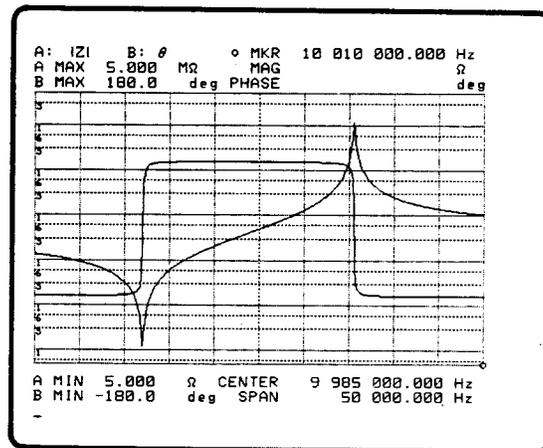

Figure 3-161. Calculated F Characteristics
11. To delete the data taken in step 4 from the screen, press the **DISPLAY** key and the 'menu' softkey, then set the '**DISP A on/off**' softkey to **OFF**. Press softkey 'more 1/3' and set softkey '**DISP B on/off**' to **OFF**. Only simulated data will remain on the screen, see Figure 3-161.